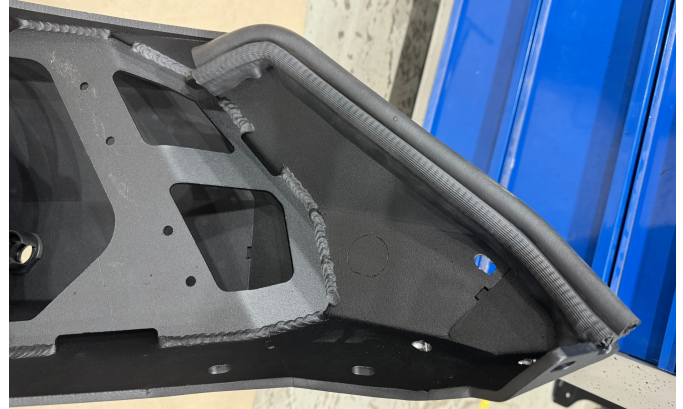

Fig.52
52. Mount weatherstrips (item 9) on bumper body (fig.52).